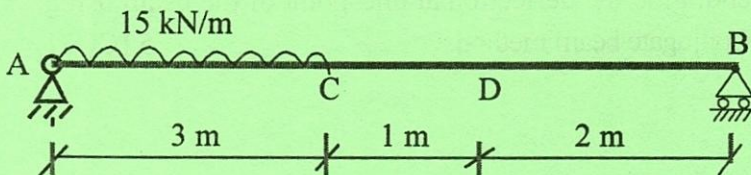

Fig. QB2
- B2. Using the Virtual work method, determine the Bending moment at the point D of the simply supported beam due to the load system shown in Fig QB2. 5 [CO4]